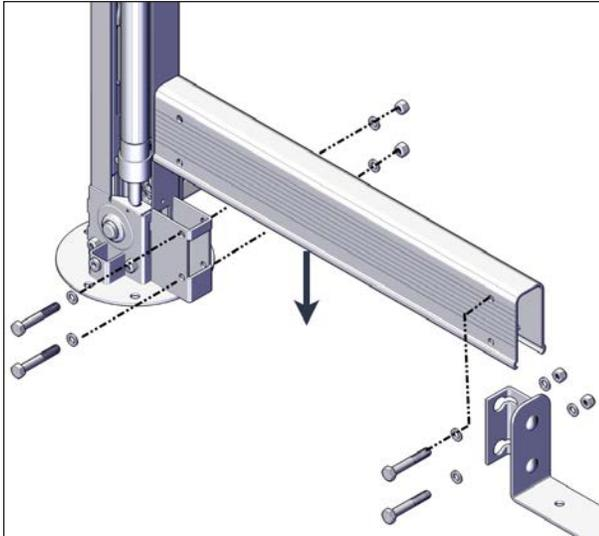

FIGURE 23: SHORT U-SHAPE INSTALLATION
15. Fasten a short U-frame to each end of the spa entrance U-frame link and then install the entire assembly between the front posts. Use four hexagonal 5/16"-18 x 2" bolts, four 5/16"-18 nylon-insert lock nuts and eight 5/16" washers (4 per side). Use 1/2" (13 mm) socket wrench and spanner, see Figure 23.